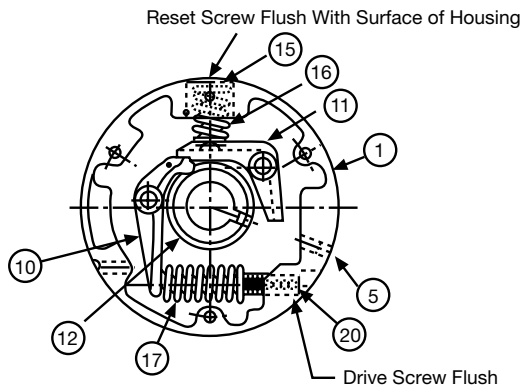

Figure 15 - Clutch Internal Components
2. Press the rotor (12) into the housing bearing. If the rotor is a Model FJ or Model FG, press the shorter end of the rotor into the housing bearing. If the rotor is a Style 2, then press the sawcut section of the rotor into the housing bearing.
3. This step is for manual reset only. Go to next step for automatic reset. Install the drive pawl (10) into the appropriate hole in the housing (1), and the reset pawl (11) into its appropriate hole in the housing. Check the fit of the reset pawl into the notch of the drive pawl with the clutch disengaged. The reset pawl should fit approximately one-third of the way into the notch. Grinding the nose of the reset pawl may be necessary to obtain the proper fit.
4. The drive pawl (10) and the drive spring (17) will have to be installed simultaneously. If a drastic change in torque is desired, use this step to change the drive spring. Place one end of the drive spring over the drive spring thrust washer. Insert the knob of the drive pawl into the other end of the drive spring. Insert the trunnion of the drive pawl into the hardened bushing in the housing, while the nose of the drive pawl fits into the notch of the rotor (12). Install the reset pawl (11) into its appropriate hole in the housing. (See Figure 15)
6. Insert the reset spring disc (16) inside the reset spring screw (15). Apply grease to the surface of the disc.
7. If a drastic change in torque is desired, use this step to change the reset spring. Place the reset spring (18) on the surface of the reset spring disc. Apply grease to the end of the ball thrust (19) and insert ball thrust into the reset spring.
8. Apply grease to the threads of the reset spring screw (15) and insert the assembly of the reset spring screw, reset spring disc (16), reset spring (18), and ball thrust (19) through the hole stamped 9 on the housing. Tighten the reset spring screw until it is flush with the surface of the housing. (See Figure 15)
10. Install a return pin spring (34) over each return pin (31). Locate the return pin holes in the cover by placing the cover over the housing assembly.
12. Install a snap ring (33) into the groove on the end of each return pin (31).
14. Install the cover screws (23) and tighten to the suggested torques in Table 12.
4. Turn the drive spring screw (20) clockwise until it is flush with the surface of the housing. (See Figure 15)
5. The clutch is supplied with a torque selector dial. The torque selector dial is the two or three mill marks located at the hole stamped 9 on the housing. If a drive spring (17), reset spring (18), and/or a reset spring screw (15) were replaced, chances are that the stamped torque values on the dial are no longer valid. It may be necessary to grind the old numbers off and to stamp new numbers.
6. Tighten the reset spring screw (15) until it reaches the limit stop pin (4). this will be the maximum torque position. If the maximum torque is not desired, tighten the reset spring screw to one of the locations on the torque selector dial.
7. Disengage the clutch with a torque wrench. Fine tune the torque by turning the drive spring screw (20) until the desired release torque is obtained.
8. Once the desired release torque is obtained, tighten the locking screws (24) located over the drive spring and reset spring screws to ensure that they will not move.